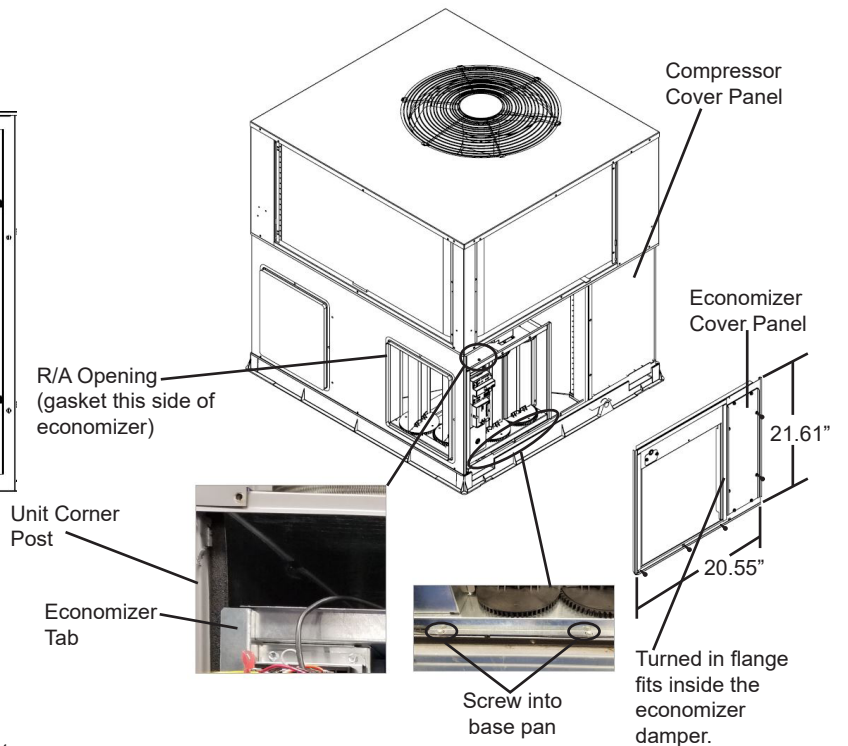

Fig. 5 - Economizer Installation
8. Install the 5/8" gasketing on the duct side flanges of the economizer, see Fig. 5. Turn the economizer on its side. Slide economizer into cabinet and as far to the left as possible. The economizer will set against the left side of the HVAC unit and will cover the horizontal return air opening. Caulk as required.
9. Remove filter access panel. Install the replacement return chamber panel over the economizer assembly and underneath the drip flange on the HVAC unit. Line up the bottom left hole on the panel with the hole in the bottom left of the economizer and the mating hole in the base of the HVAC unit. Insert screw, which will hold all parts in place. Insert screws on bottom right of panel as well. Install filters and then reinstall the filter access panel. See Fig. 5.